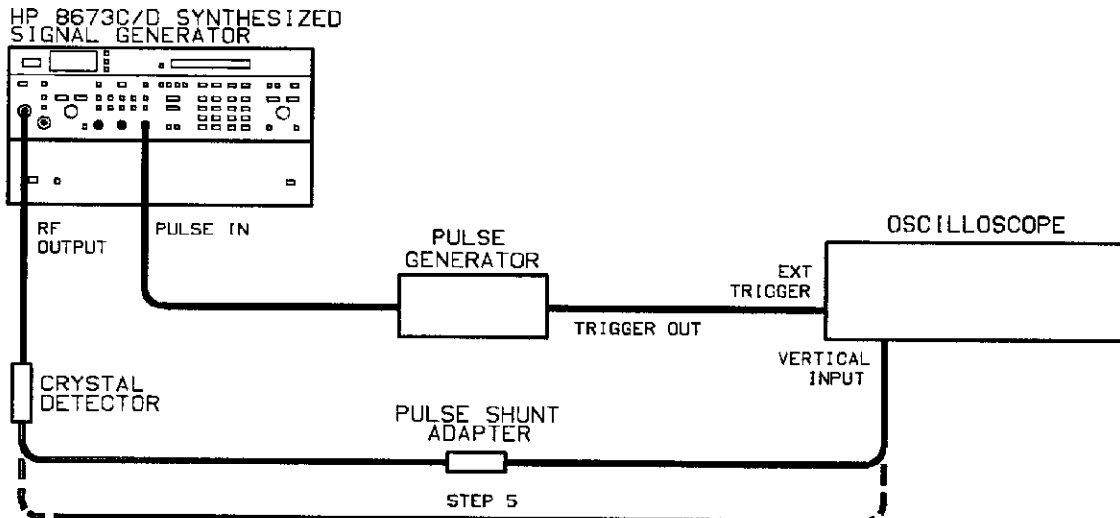

Figure 8-51. Pulse Modulation Initial Check Test Setup
1. Connect the equipment as shown in figure 8-51.
5. Bypass the preamp/amplifier as shown in figure 8-51. Adjust the oscilloscope vertical position and sensitivity controls so that the pulse base line is one division from the bottom graticule line and approximately 5 divisions high in peak amplitude. (The Signal Generator output level may have to be increased to +8 dBm.)